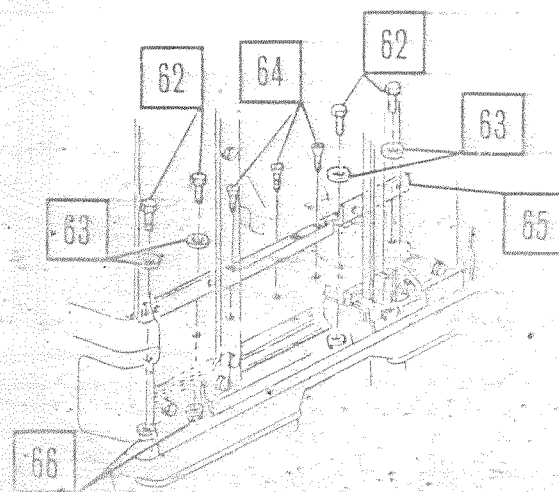

Figure 22.
73. Secure rear door seal molding to rear panels and cargo floor with bolts, nuts and washers (Figure 22.). Tighten bolts to 22-30 lb.-in. (30.0-40.0 Nm).
74. Install three screws through rear door seal molding into floor insulator (Figure 22.).